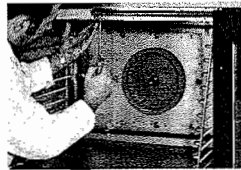

Fig. 9
5. Install *top panel* by inserting screws (3 screws in front, 2 in back) and screwing tight to top of oven interior, as shown in Fig. 9.